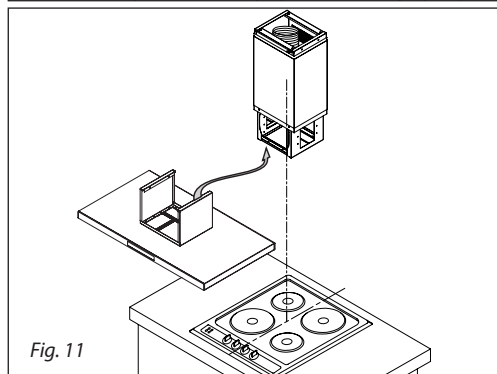
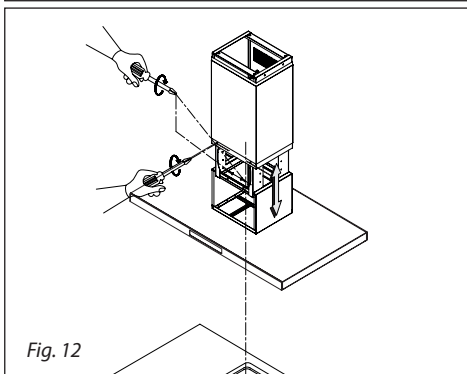

Fig. 11
Fig. 12
8. Attach the cooker hood body to the holder on the ceiling (Figure 11 and Figure 12).